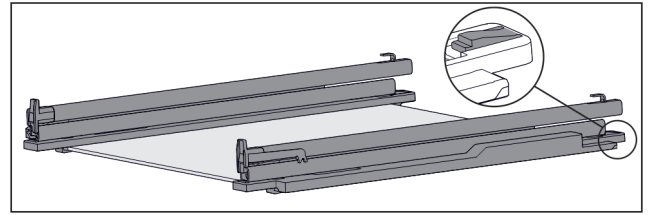

Fig. 125 Glass shelf with rails and retaining parts
- ▶ Press down retaining part at the rear (see Fig. 125) and simultaneously push rail back.